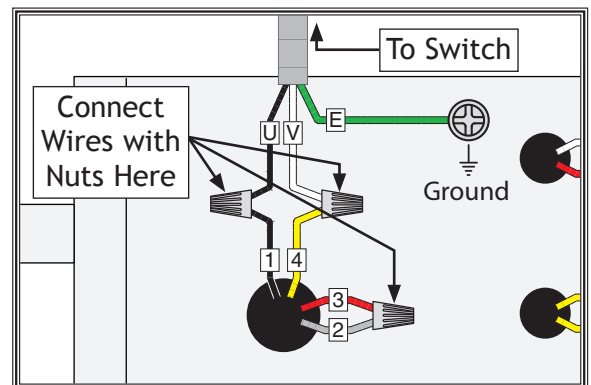

Figure 12. Motor rewired to 220V.
4. Connect wires as indicated in **Figure 12**. Secure wire connections with wire nuts, and wrap them with electrical tape so they will not vibrate loose during operation.